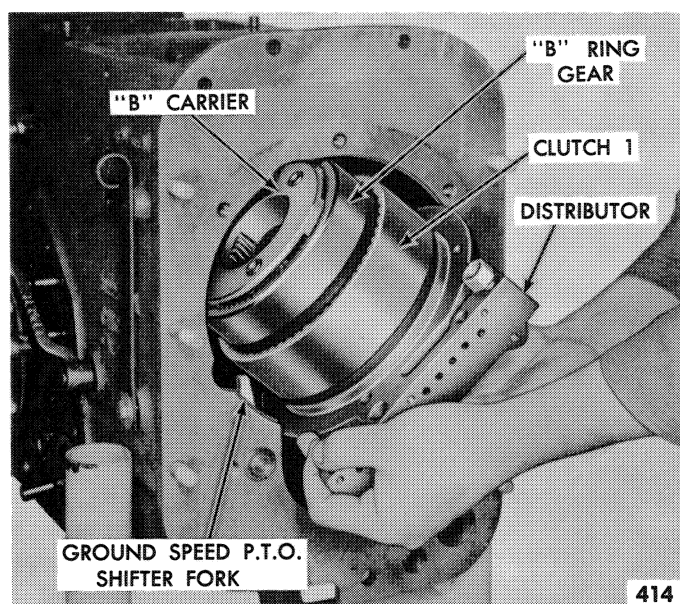

Figure 93—Removing the Distributor, Clutch 1, "B" Ring Gear and "B" Carrier
12. Check to be sure that No. 2 band is loosened as much as possible. Move the ground speed P.T.O. shifter fork toward the rear, then pivot it up and out of the way, as shown in Figure 93.
Model 81 Transmission: Remove the distributor, clutch 1, "B" ring gear, and "B" carrier as an assembly, as shown in Figure 93.